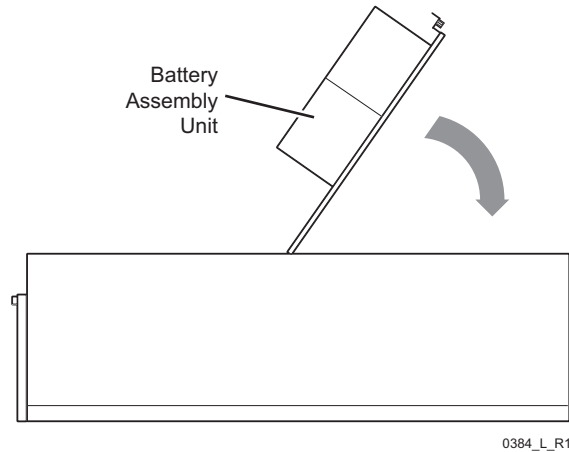

Figure 20-1. Flip the Battery Assembly Over
- 11 Flip the battery assembly upside down, as shown in Figure 20-1.